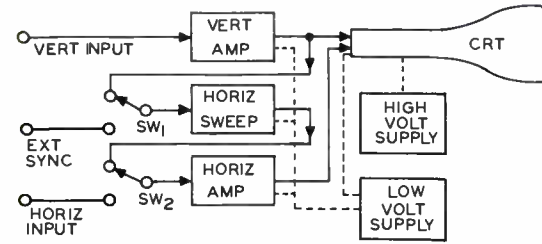

FIGURE 1
- The horizontal sweep section of Figure 1 generates